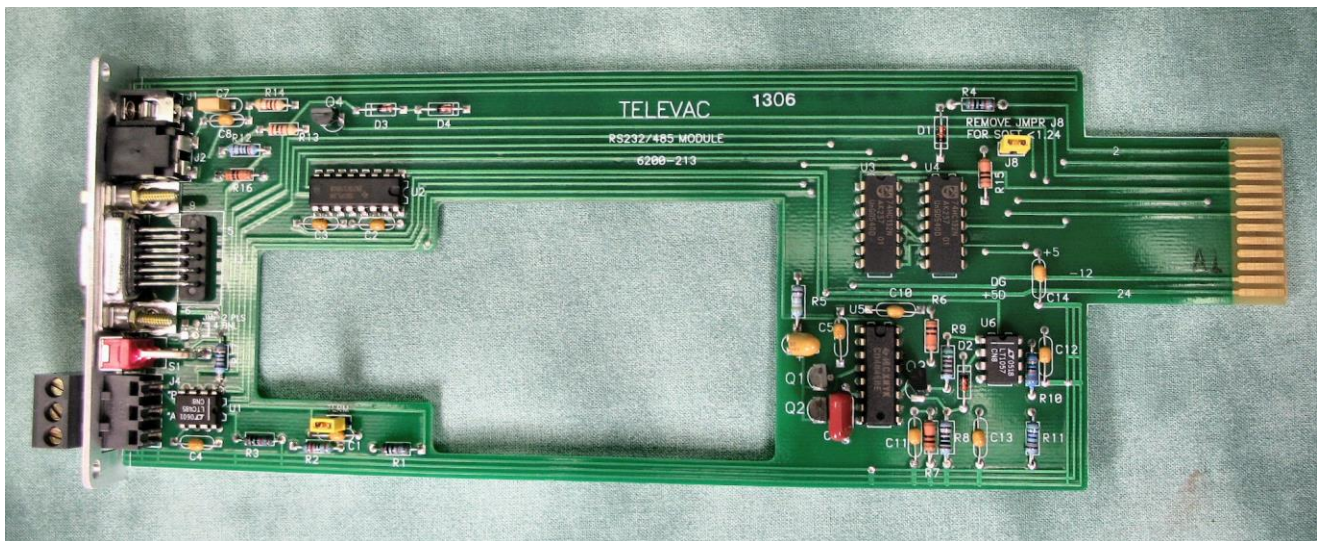

Fig. 9.2 – Digital Interface Module
**DIGITAL INTERFACE MODULE** - A digital interface module is shown in Fig. 9.2. When a cold cathode module is installed in expansion slot #6, it must be removed before the digital interface module can be installed. Note that there is a cutout in the digital interface module to clear the transformer of the cold cathode module. These two modules must be installed at the same time.